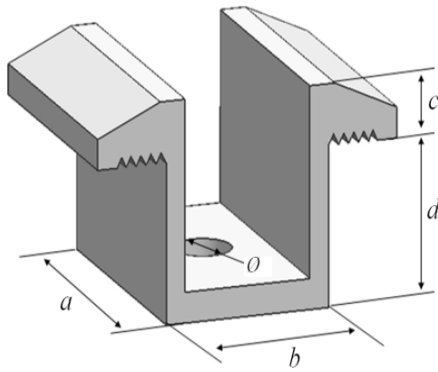
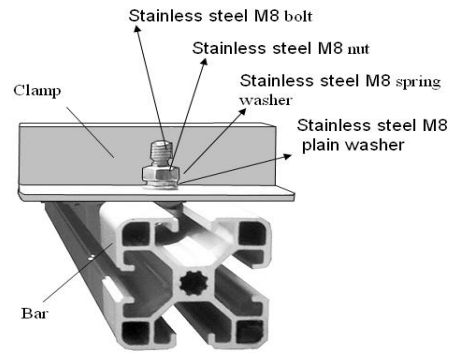

Figure 8
Figure 9
- e) Both of close-ups of Figure 8, indicating the middle clamps and Figure 9, indicating the side clamps for reference. Suggest the dimensions for middle clamps are: $a \geq 40$ mm, $b \geq 26$ mm, $c = 8$ mm, $d \geq 28$ mm, and $\varnothing = 9$ mm. The torque for tightening the nut and bolts are recommended 17~23Nm when the property class of bolts and screws is Class 8.8.